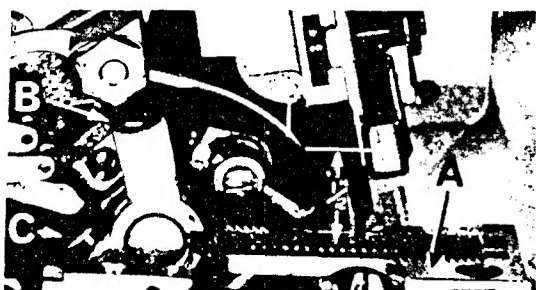

Fig. 3
With throat plate assembled in position, needle should center in the front end of needle slot. When needle is at high position, needle point should be set $1/2$ inch above throat plate (A, Fig. 3). To align needle or set the height above the throat plate, move needle driving arm (B, Fig. 3) by loosening clamp screw (C). Remove throat plate.